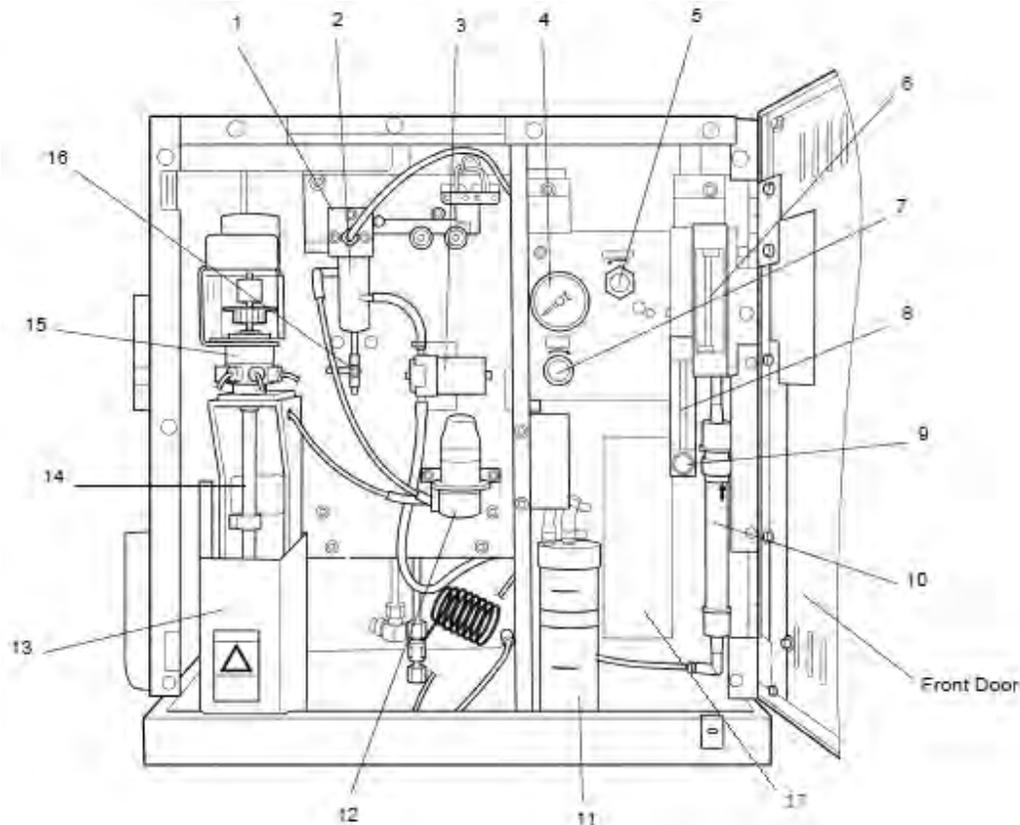
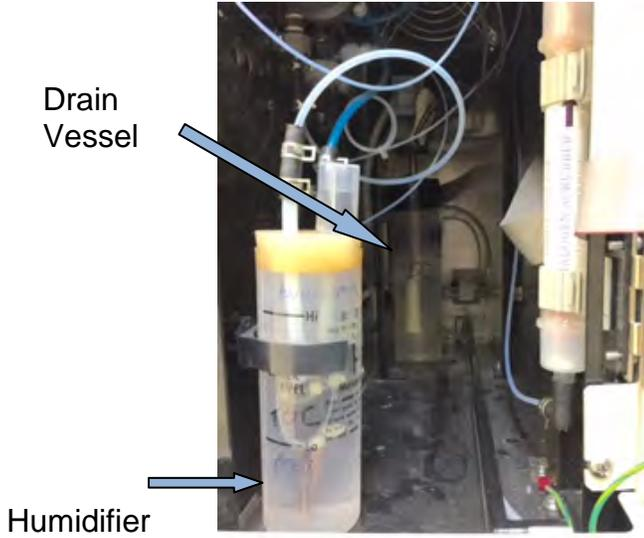

Figure 1. Layout of the TOC-V_{CSN/H} after opening the front door of machine.
Figure 2. TOC-Vcsn.
- 3.1.1 Wear gloves before proceeding. Open the front door of the TOC-VCSN using the latch on the bottom left. Check the **drain vessel** volume (back of machine, right hand side). If needed, fill with DI water to the level indicated by the drain discharge tube on the side of the container. Use DI wash bottle to fill the container through the slits in the top of the black cap *in situ*. **Do not** remove the cap or unclip the bottle from its current location. Use Figure 1 as a reference; see Figure 2 for a close-up view.
- 3.1.2 With the door open, check the **humidifier** water container level in the front of the TOC-VCSN; fill if needed. Add **TOC certified water** using a wash bottle to fill the container to the 'Hi' level mark. Squirt water through the water supply port opening in the top of the container. Close the door of the TOC-VCSN (Figure 2).